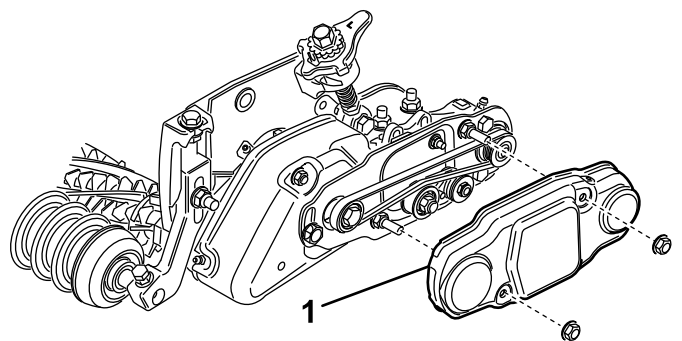

Figure 34
26. Slide the belt cover onto the mounting bolts and secure with 2 flange nuts (Figure 34).